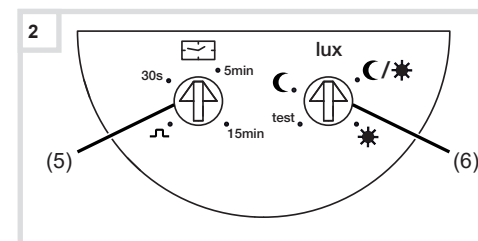

Figure 2: Adjustment elements
- Setting the test mode. To do this, set the response brightness potentiometer (Figure 2, 6) to the test position.
- Turn the response brightness potentiometer (Fig. 2, 6) to the desired position.
- Turn the delay time potentiometer (Figure 2, 5) to the desired position.